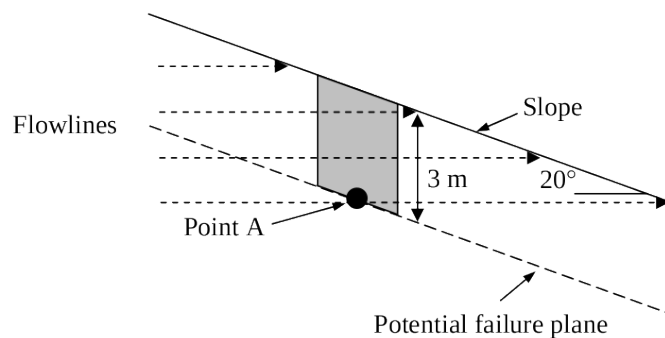

Fig. 3
- (d) Seepage is now occurring horizontally and the flow lines are shown in Fig. 3 and water is seeping out of the slope. Draw the equipotential lines and evaluate that the pore pressure at Point A.